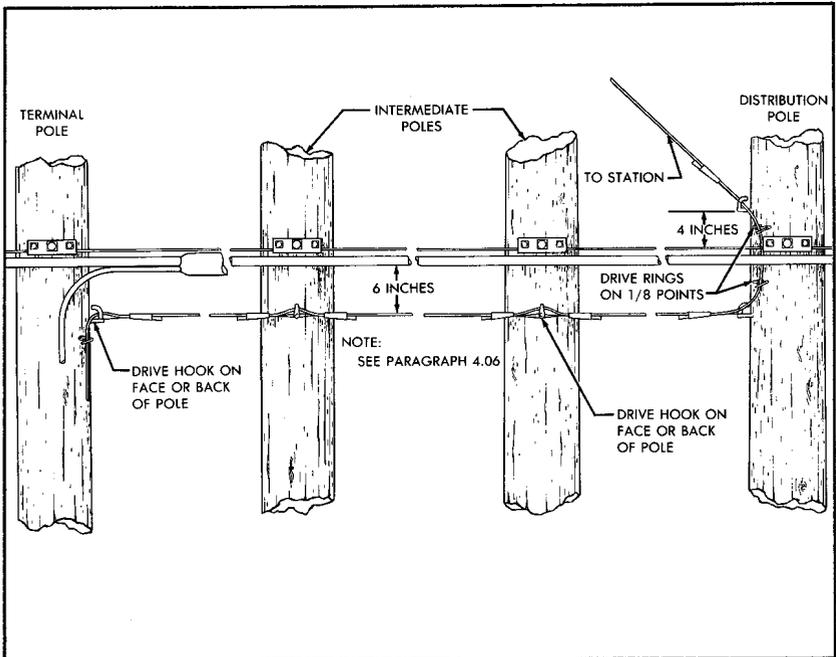

FIGURE 4. Drop Wire Run Along Lead Carrying Cable
4.01 Run aerial cable drop wire below the cable as shown in Figure 4. To serve a station from wire that is strung along a lead, make a vertical run to a drive hook that is placed above the strand on the serving pole with proper clearance from power.
4.05 Distribute drop wires from drive hooks at poles other than terminal poles, as shown in Figures 4 and 5.
7.01 Place drive hooks on the face or back of poles, above or below the cable; maintain required clearances from the ground, foreign wires and trees. On intermediate poles, drive hooks may be placed in the sides of the poles. See Figures 4 and 6. Drive hooks shall occupy a pole area not more than 8 inches in vertical extent, nor more than 1 inch in width. No more than four hooks are to be placed in each of these areas. Refer to paragraphs 4.01 to 4.06 for the placing of initial drive hooks.